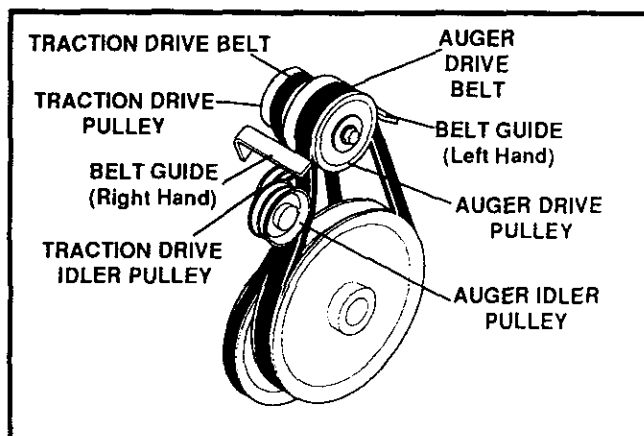

FIG. 8
- Loosen the belt guides (See FIG. 8) and pull away from the engine drive pulley.
- Loosen belt guides (See FIG. 8) and pull belt guides away from the engine drive pulley.